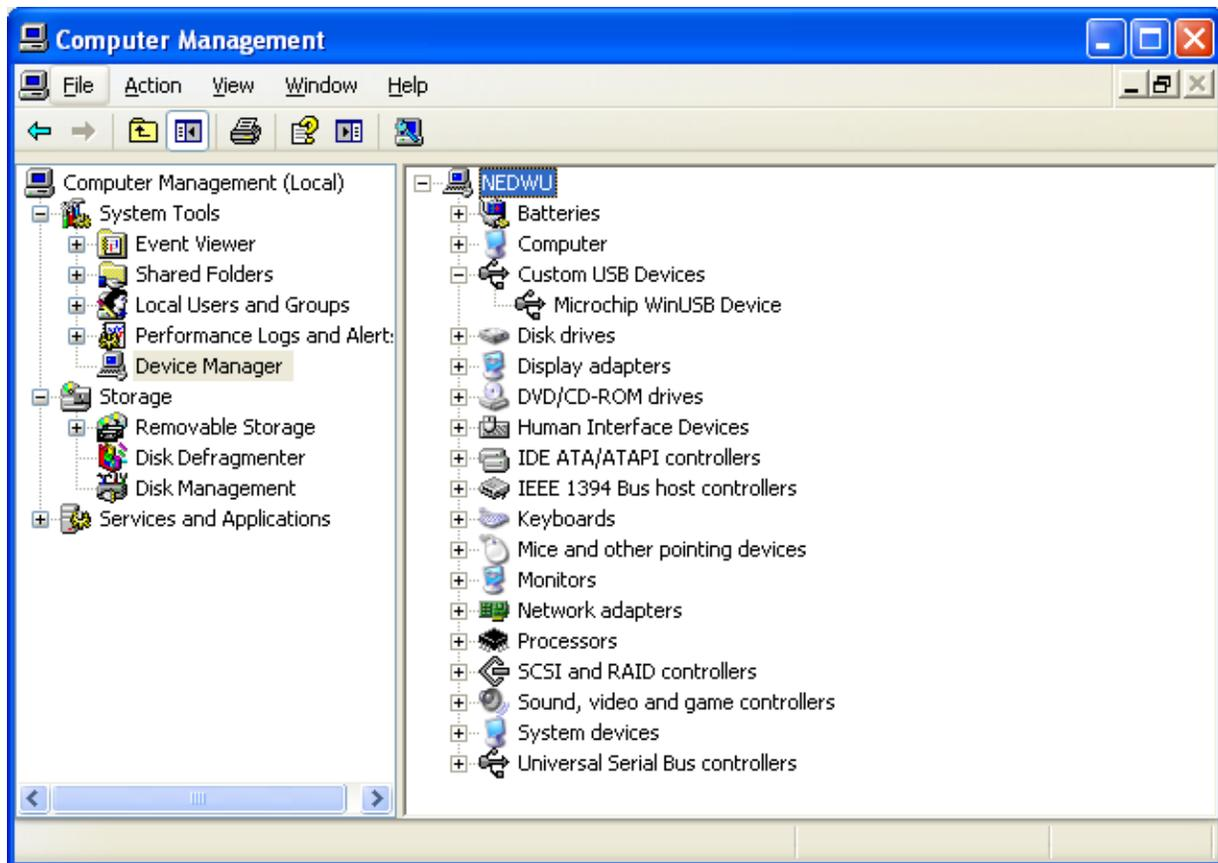

Figure 21 “Computer Management” window.
- m. After the USB driver installed successfully, the “**Computer Management**” window will show as Figure 21.